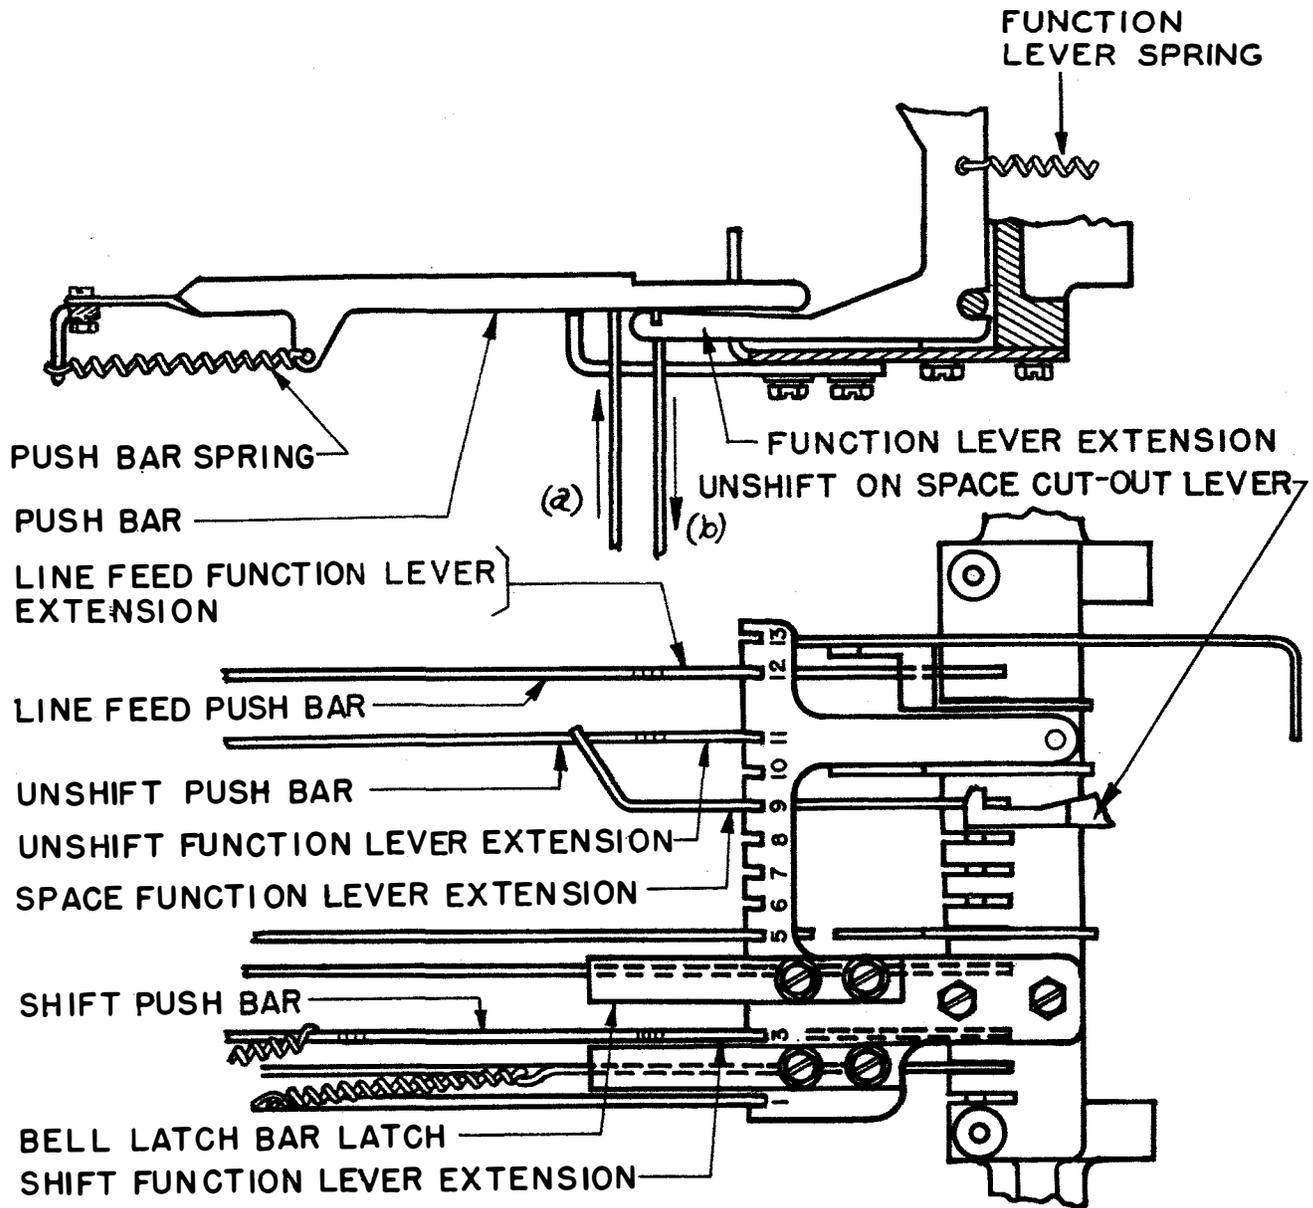

Figure 31
2.54 **FIGS, Line-feed, and LTRS Function Levers** should be free of bind and the tension of their springs should be minimum 15 ounces, maximum 19 ounces, measured as at (b) when (1) the blank combination is set up, (2) the mainshaft is rotated until the printing bail is in its extreme forward position, and (3) the pushbars are held away from the function levers. See Figure 31.
2.55 Space-function-lever Spring should have a tension of minimum 12 ounces, maximum 16 ounces, measured as at (b) when the space-function lever is resting against the vanes but not selected and the letters pushbar is held away from the function lever. See Figure 31.
2. 58 Unshift-on-space Cut-out Lever should be rotated counterclockwise (viewed from bottom) until it rests against its stop. See Figure 31.
maximum 5 ounces, measured as at (a) in Figure 31 when any character has been selected and the mainshaft is rotated until the printing bail is in its extreme forward position.
- 2.70 Line-feed Pushbar Spring should exert a pressure of minimum 1-1/2 ounces, maximum 2-1/2 ounces, measured as at (a) when the printing bail is in its extreme rear position. See Figure 31.